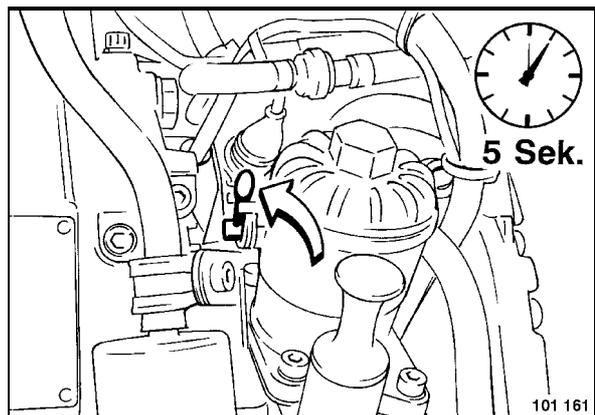

Fig. 19
- Press the hand lever (Fig. 19) for approx. five seconds against the spring.